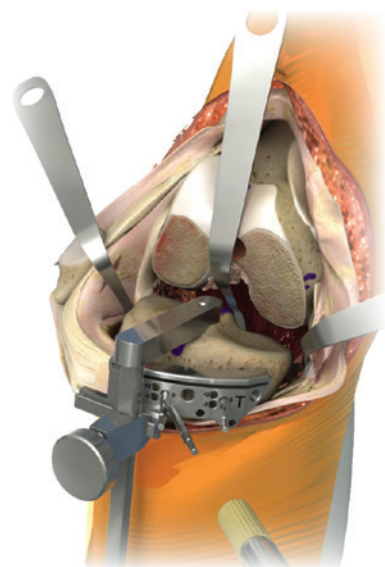

Figure 34
7. Pin the universal cutting block to the tibia by inserting pins first through the central holes; then the medial hole (Figure 34).